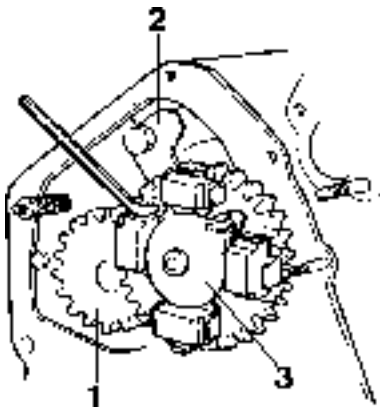

Fig. 67. Dismantling of camshaft
4. Remove the screws for the lock plate (one screw is accessible through the hole in the camshaft gear), Fig. 67.